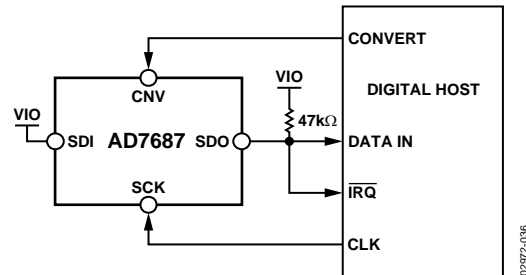
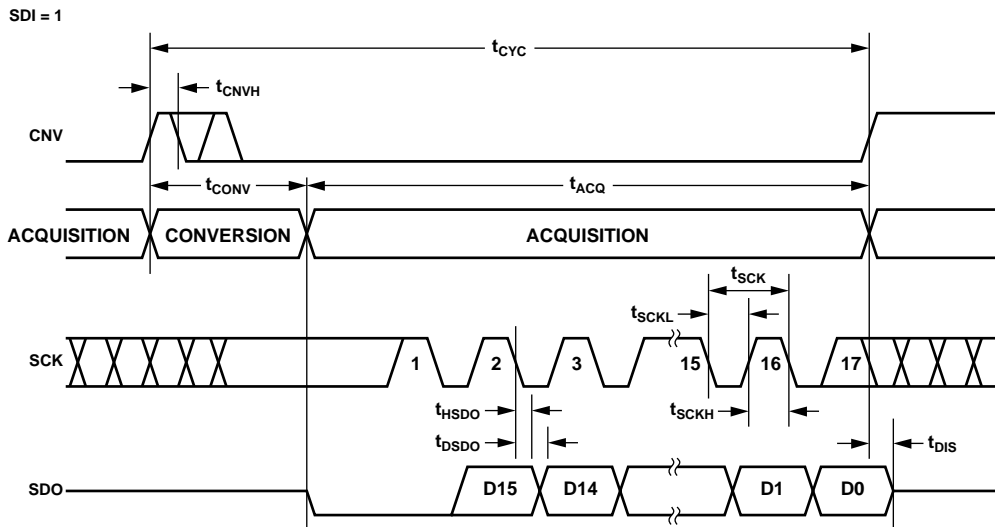
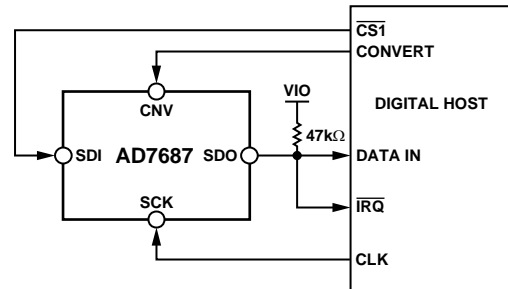
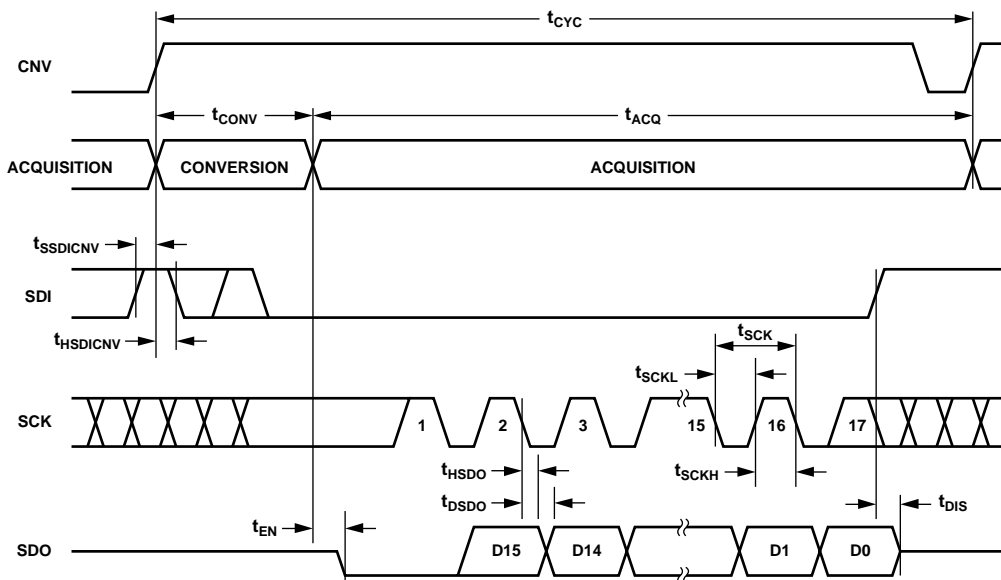

Figure 36. CS Mode, 3-Wire with BUSY Indicator Connection Diagram (SDI High)
Figure 37. CS Mode, 3-Wire with BUSY Indicator Serial Interface Timing (SDI High)
Figure 40. \overline{CS} Mode, 4-Wire with BUSY Indicator Connection Diagram
Figure 41. \overline{CS} Mode, 4-Wire with BUSY Indicator Serial Interface Timing
- In the \overline{CS} mode if \overline{CNV} or SDI is low when the ADC conversion ends (see Figure 37 and Figure 41).
Figure 36 shows the connection diagram and Figure 37 gives the corresponding timing.
Figure 40 shows the connection diagram and Figure 41 gives the corresponding timing.